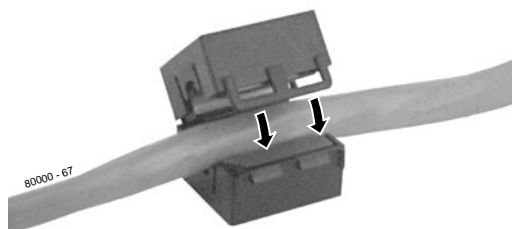

Figure 2-15: Installing the RFI Suppressor
3. If you are using non-suffixed PCBs (e.g., 16DSTU PCB P/N 80021) in a 4 slot cabinet, be sure to install the FRI Suppressor Assemblies on each station and trunk cable. Follow Figure 2-15 *Installing the RFI Suppressor* on page 2-12 and snap an assembly around each 50-pin cable. **You cannot use non-suffixed PCBs in an 8 slot cabinet.**